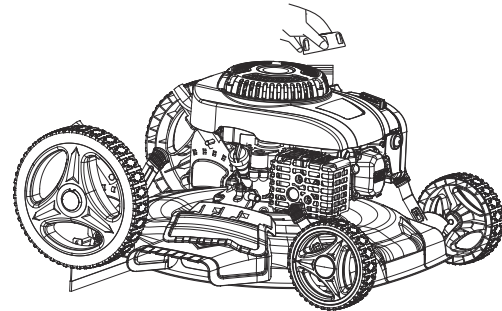

Fig. 8
Fill the fuel tank with fresh unleaded regular gasoline from a filling station. (Fig. 8)
**Important:** To reduce starting problems, add fuel stabilizer to the fuel, mixing it with gasoline less than 30 days old. (Fig. 8)